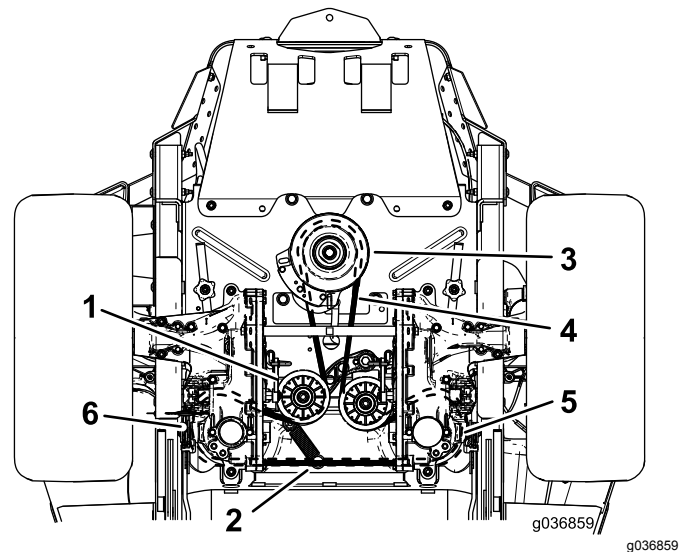

Figure 102
4. Raise the machine and support it with jack stands (Figure 102).
6. Remove the idler spring from the post (Figure 102).
8. Install the new belt around the engine pulley and the 2 hydraulic-pump pulleys (Figure 102).